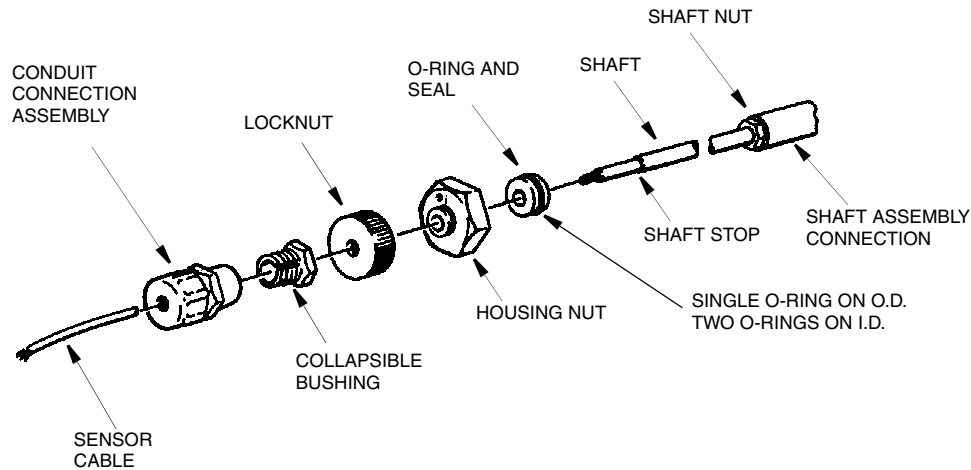

Figure 6. Preassembly of Shaft Assembly
3. Make sure the shaft assembly is preassembled as shown in Figure 6.